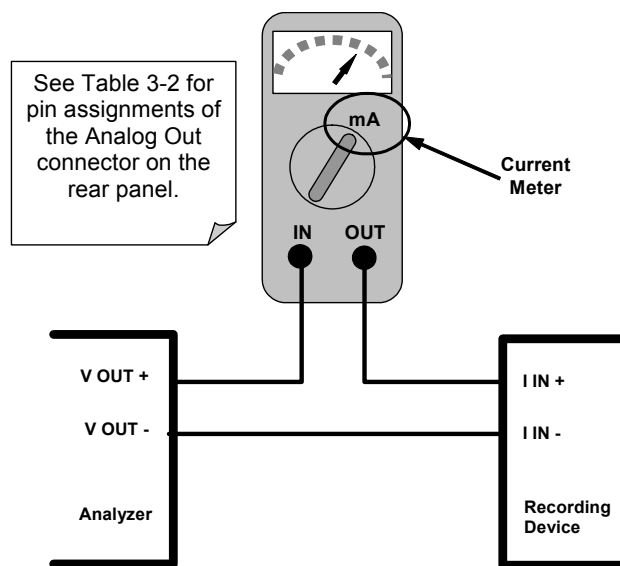

Figure 6-6-15: Setup for Calibrating Current Outputs
- In this case calibration is performed with a current meter connected in series with the output circuitry (See Figure 6-6-15).